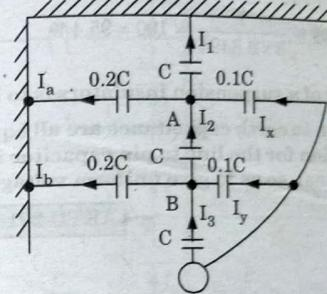

Fig. 3.14.1.
1. Let  $E_1$ ,  $E_2$  and  $E_3$  be the voltage drops across the discs as shown in Fig. 3.14.1. Applying Kirchhoff's current law at node  $A$ , we have